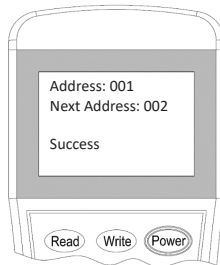

Figure 6
3. Input the desire device address value from 1 to 254, and then press “**Write**” to save the new address (Figure 6).